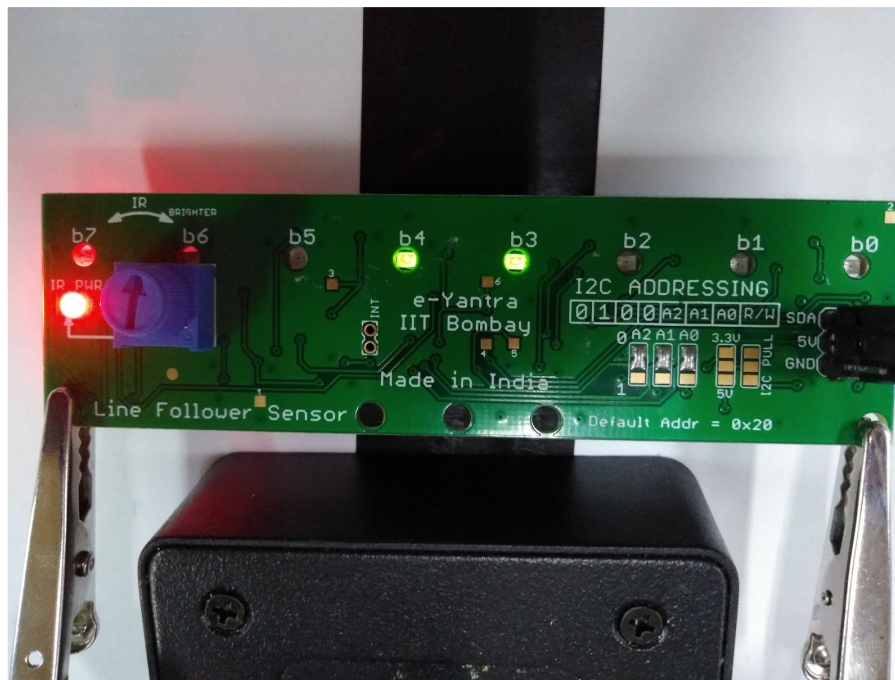

Fig.5: Dark area LEDS are ON
Step 3 : Turn the brightness up, so that light area (white surface) LEDs starts turning OFF and only Dark area LEDs are ON.(refer Fig. 5)
Referring to Fig. 5, IR Led status indicator shows: OFF, OFF, OFF, ON, ON, OFF, OFF, OFF, the output will be 24 (in decimal system) or 0x18 (in Hex system).